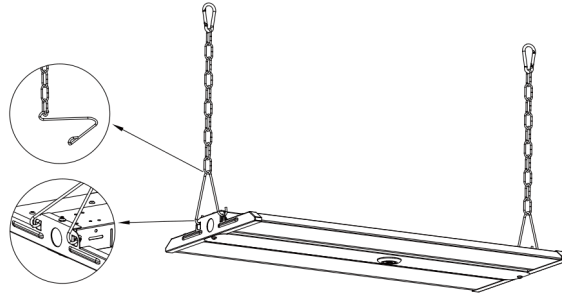

Figure 1
Step1. Attach the chain in place. [Figure 1]
Step2. Connect the chain to the fixture. [Figure 1]
step3. Secure the chain to the mounting rail, and adjust the chain length to the desired length. [Figure 1]